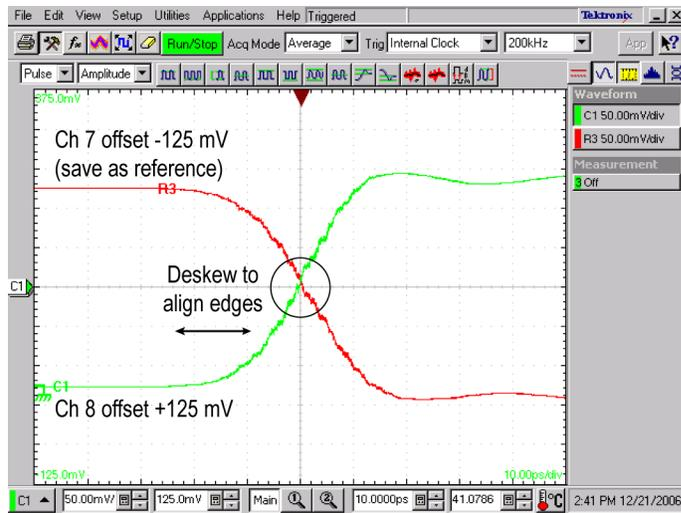

Figure 31: Deskew the TDR steps
11. Adjust Ch 4 to position the step at 0 V, and then enter -125 mV offset to position the step as shown. (See Figure 31.) Save this waveform to a reference.
14. Enter 125 mV offset to position the step as shown. (See Figure 31.)